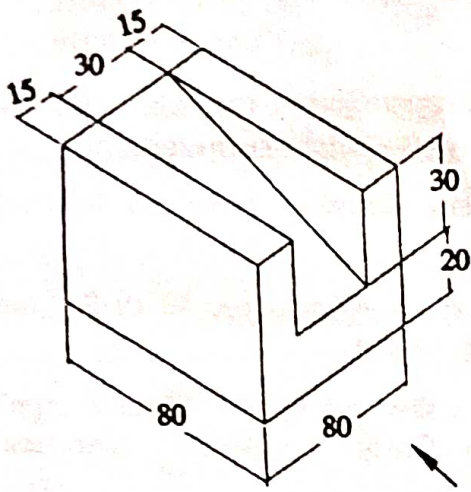

FIG. 1
5. Draw front view and left side view of the pictorial view of the component given in the fig.1.